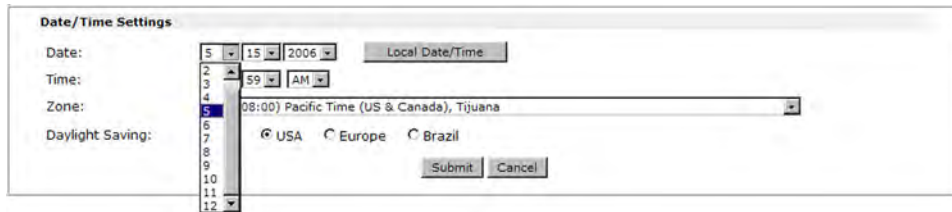

Figure 35. Date/Time Settings Panel
1. Click the drop box for the desired variable. The adjustable variables are month, day, year, hours, minutes, am or pm, and (time) zone. A drop-down scroll box appears (the **Month** drop box is selected in figure 35).